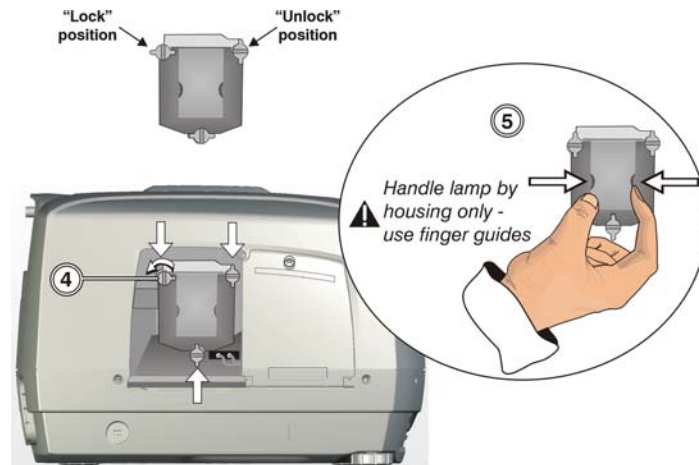

Figure 4.4.
4. Using a screwdriver or fingers, turn the three lock screws on the lamp module counter-clockwise a quarter turn each to “unlock” it. (Figure 4.4.)
5. Using the two finger guides molded into the lamp housing, pull the lamp straight out of the projector. (Figure 4.4) The lamp module disconnects from the terminal block located at the back of the lamp compartment.
8. Turn the three lock screws on the new lamp module clockwise a quarter turn to “lock” it in place. (See Figure 4.4 for lock screw position.)